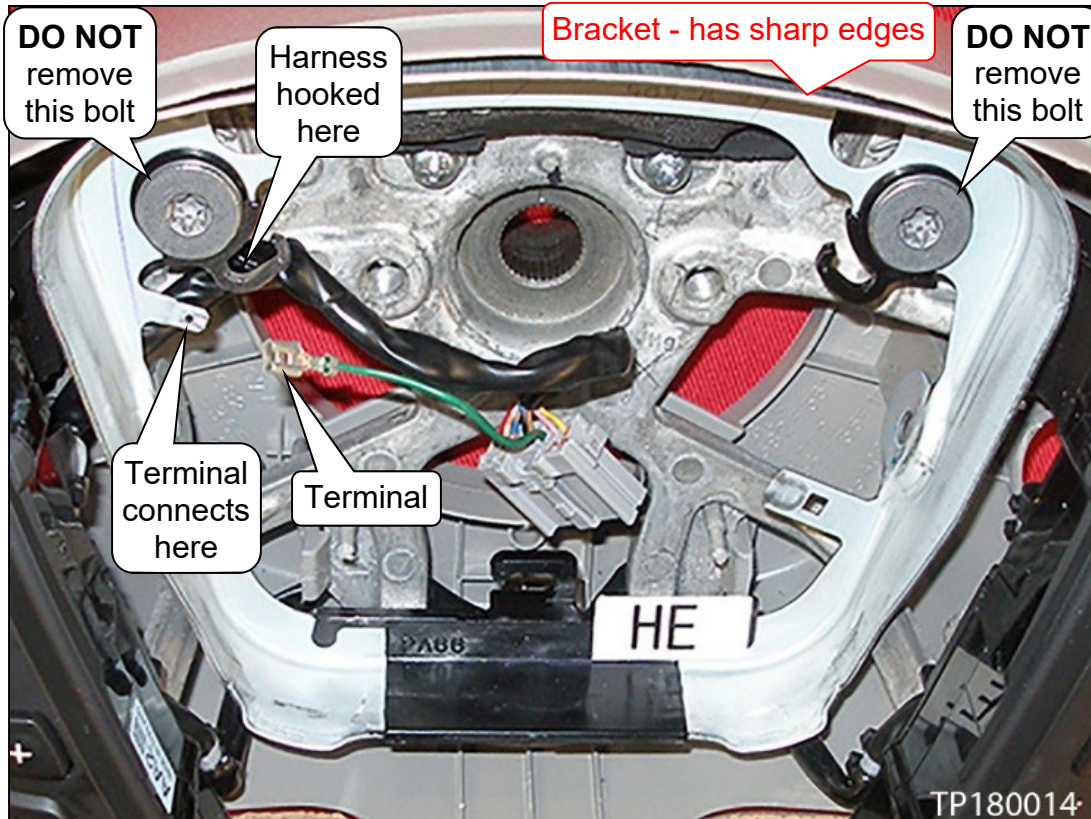

Figure 2
**NOTICE** Do NOT remove or loosen the bolts shown in Figure 2. If either bolt is removed, the steering wheel will need to be replaced.
3. Unhook the electrical harness (see Figure 2).